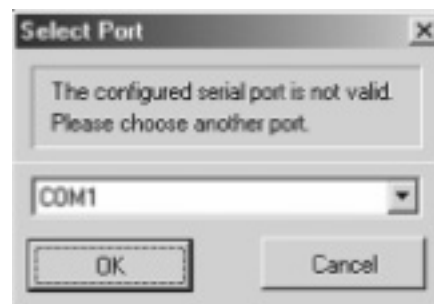

Figure 5: Select the COM port
4. Open the software and select the appropriate COM PORT using the drop-down menu. See Figure 5.